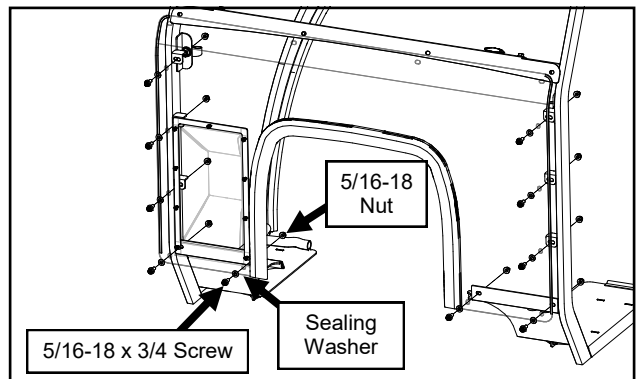

Fig. 10.1 (Install Clear Plastic Cowl)
10.1 With assistance, slide the clear plastic cowl down over the vehicle, flexing it to go around behind the loader arm bracket. Loosely secure the lower (10) slots with fasteners. See Figure 10.1.